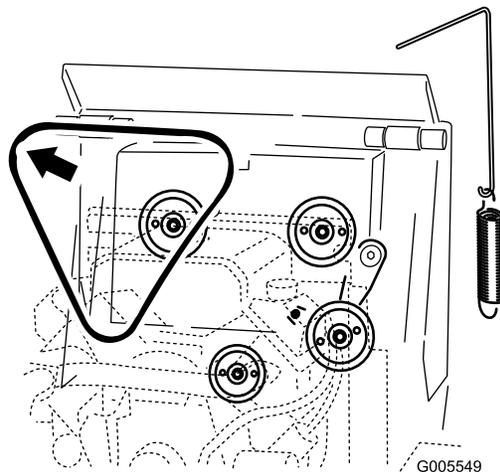

Figure 46
5. Remove the belt from the three pulleys (Figure 46).